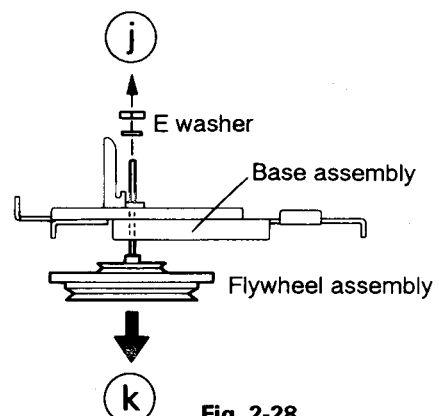

Fig. 2-28
■ Flywheel assembly (Fig. 2-28)
1. E. washer retaining the flywheel assembly in the direction of arrow ①.
2. Pull the flywheel assembly out of the back side of the cassette mechanism in the direction of the arrow ②.